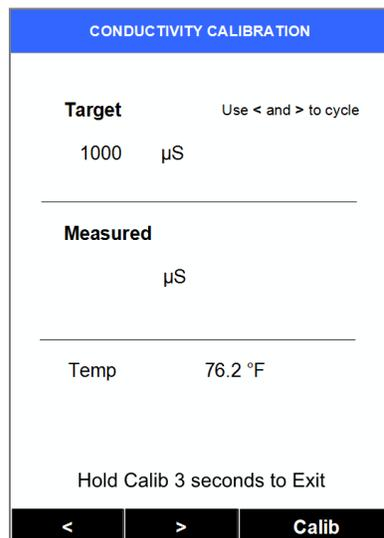

Figure 11
- 7) Use the > key to cycle to the desired calibration, e.g. 1000 μ S. The Standard Conductivity selections are 500, 1000, 2500 or 5000 μ S. For other conductivity values the User Defined calibration mode must be used. With each press of >, various elements of the display will update, such as the calibration title, the type ("Target"), and the black bar. When the 1000 μ S calibration is selected the screen will appear as in Figure 11.